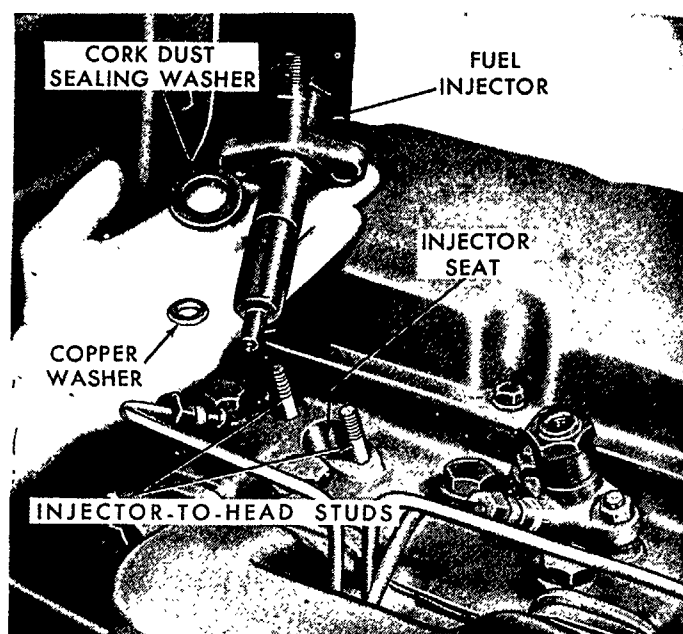

Figure 27
4. Remove the two nuts which hold the injector to the cylinder head and carefully withdraw the injector. Do not let dirt or other foreign material drop into the injector seat, Figure 27.
1. Check the injector seat in the cylinder head to see that it is clean and free from any carbon deposit. Install a new copper washer in the seat. See Figure 27.